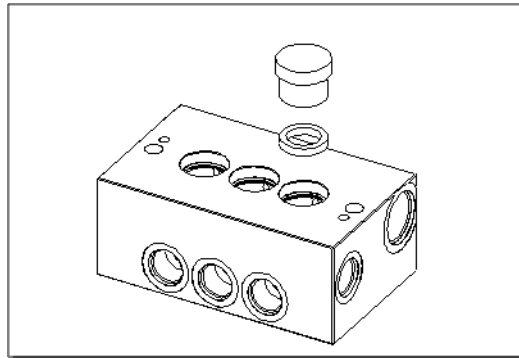

Fig. 12: High-Pressure Seals Installation View
Insert the high-pressure seal (36) into the bore until the seal is fully seated on the high-pressure seal spacer (35), using the seal insertion tool. See Fig. 12 for high-pressure seal installation view.